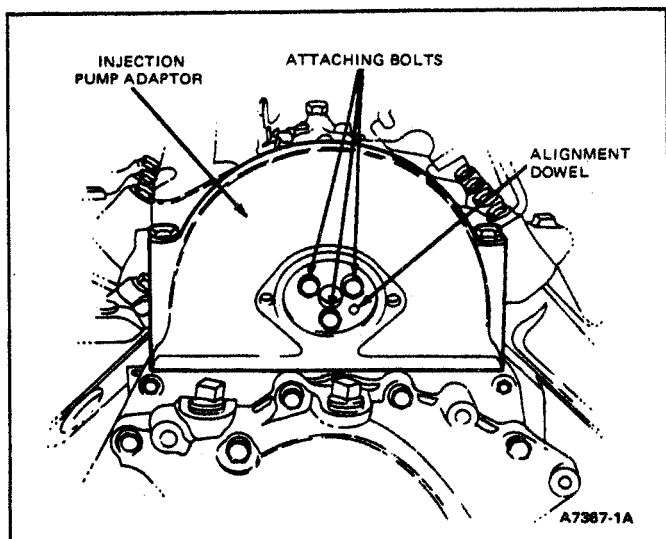

FIG. 50 Injection Pump Drive Gear Attaching Bolts
5. Remove bolts attaching injection pump to drive gear. (Fig. 50).
4. Position alignment dowel on injection pump into alignment hole on drive gear (Fig. 50).